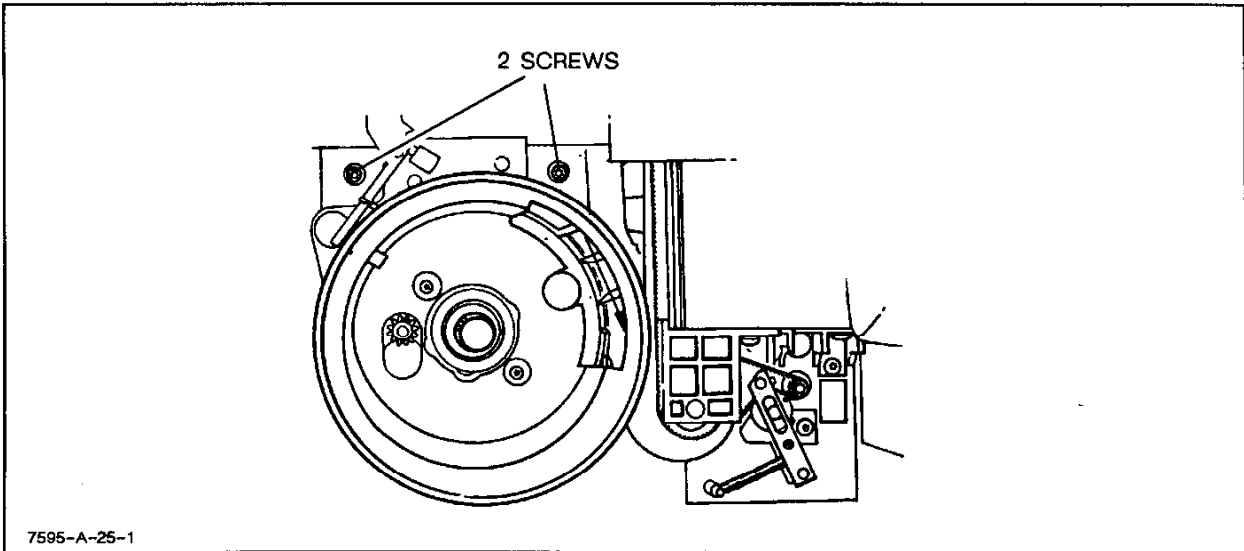

Figure 6-12. Carousel Base Assembly Removal
- a. Turn the plotter line switch to OFF (O) and disconnect the ac power cord.
- e. Remove the two base assembly mounting screws (Torx #25). See Figure 6-12.